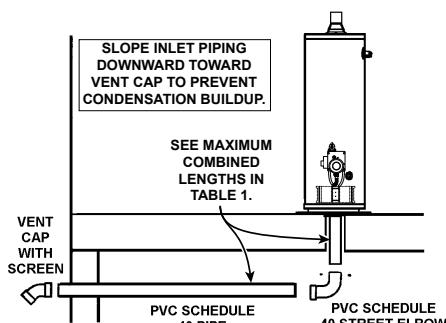

Figure 23: Inlet Air Installation
- Attach a 3" (76 mm) or 4" (102 mm) PVC street elbow to the metal air intake vent using 3 sheet metal screws. Continue PVC piping to outside wall and terminate with vent cap and screen. See Figure 23 and Table 3.